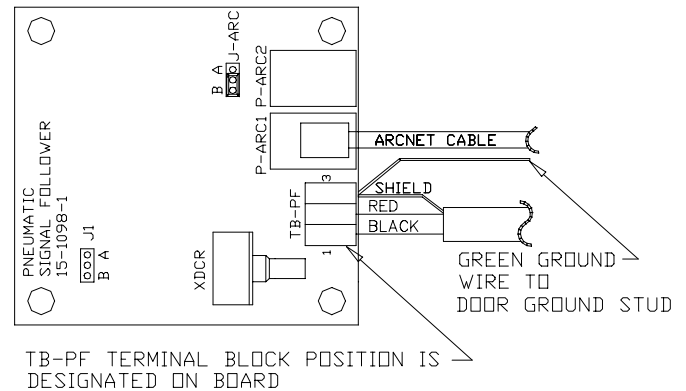

Figure 2
2. Prepare one end of the 2-conductor shielded cable (item 17) by stripping 3 inches of the outer insulation exposing the black and red wires along with the shield. Cut away foil. Cover the end of the outer insulation with heat shrink tubing.
3. Connect the stripped end of the 2-conductor shielded cable to TB-PF of the 3-15 PSIG Follower board as shown in Figure 2. Connect the green ground wire (item 13) and the shielded wire with sleeve tubing (item 15) to TB-PF-3. Route the green wire to the door ground stud and attach it by using the ring lug (item 14).
4. Plug in the Arcnet cable (item 11) to P-ARC1 of the 3-15 PSIG Follower board. Arcnet cable (item 12) is not required with this configuration. Route the shielded cable and the arcnet cable to the drive. Route the cables away from all power wires and avoid pinching or cutting the insulation.